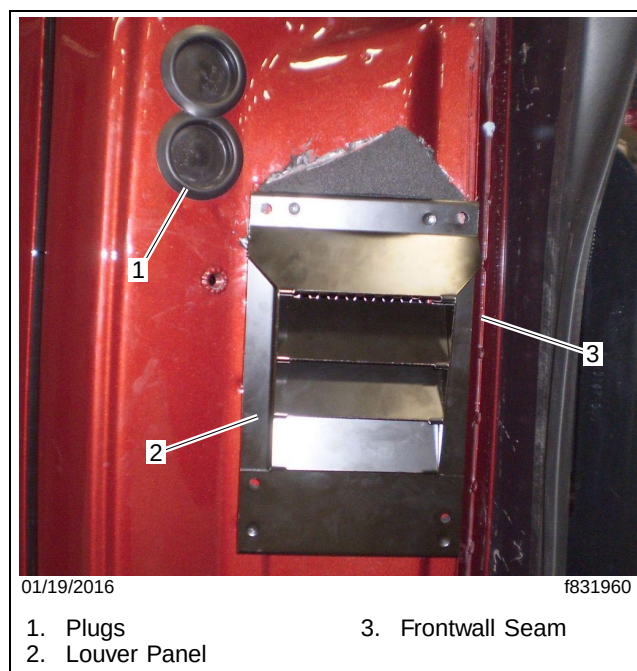

Fig. 5, Positioning the Louver Panel
8. Position the new louver panel over the HVAC fresh air intake opening so that the top edge of the panel is even with the bottom edge of the plugs, and the right edge is against the frontwall seam. See **Fig. 5**.